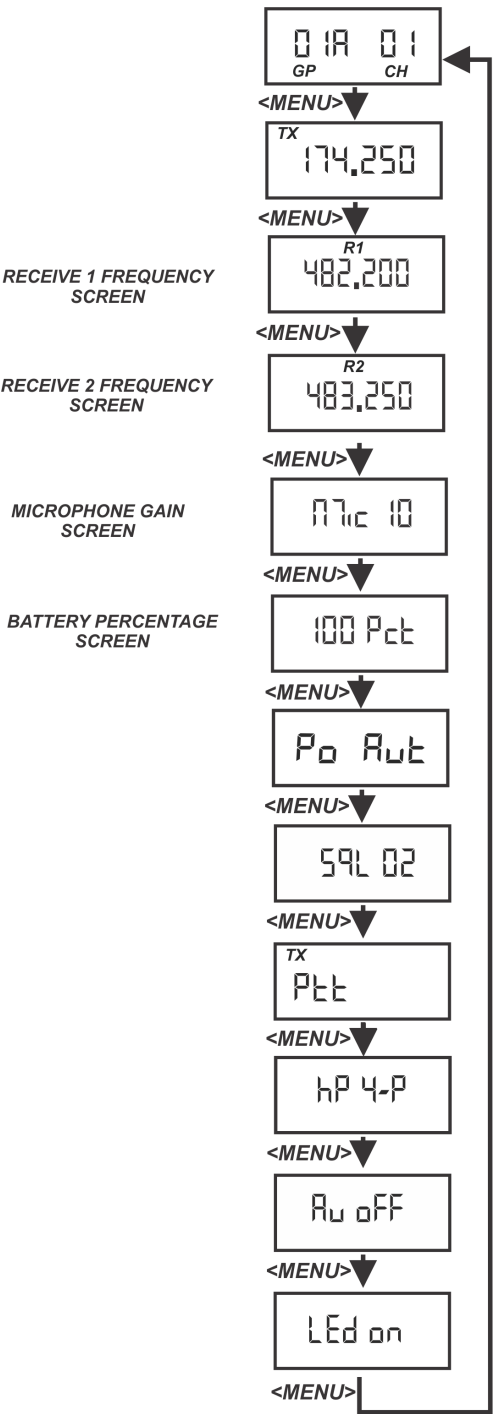

FIGURE 74. Receive Frequencies
- 1. Set the **unit** to the desired user-defined group and channels. *See Groups and Channels Instructions. The menu structure in Figure 74 indicates how to get to the receive frequency screen.*